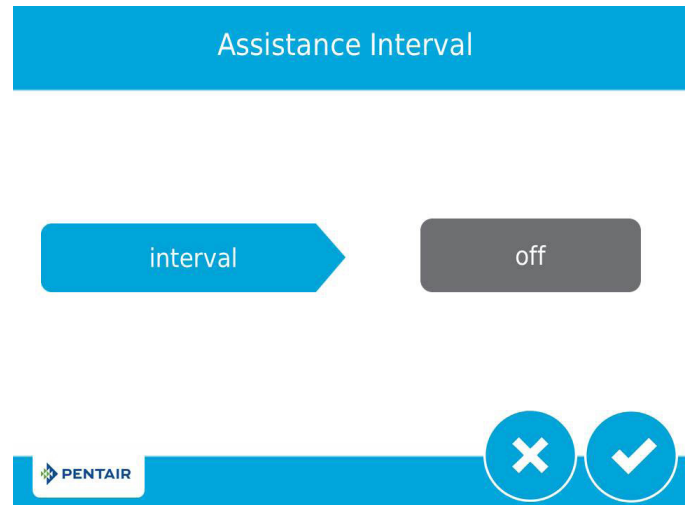

Figure 6 Assistance Interval Screen
4. After pressing , the Assistance Interval screen (Figure 6) is displayed.